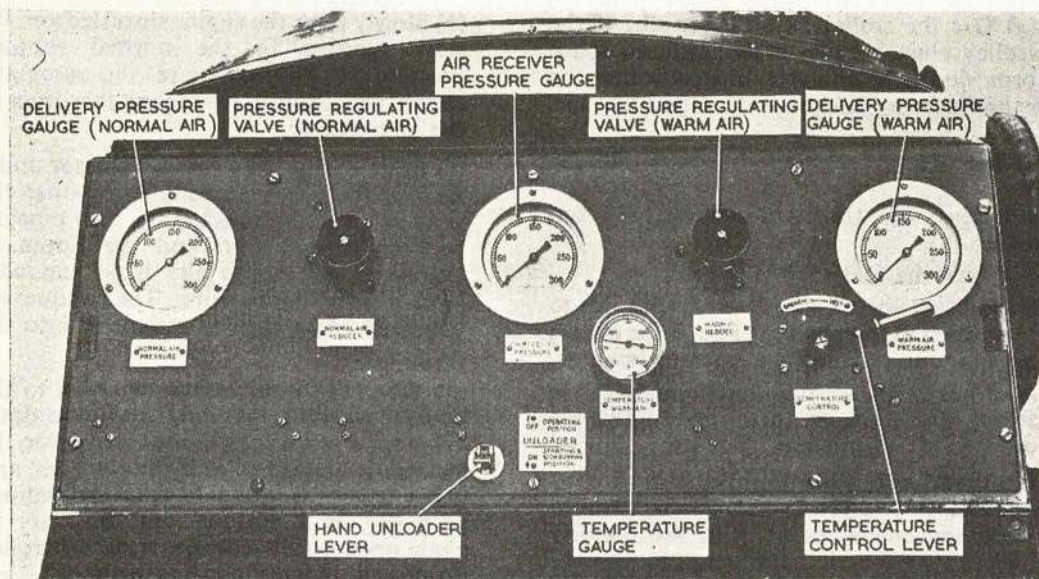

Fig. 16. CONTROL PANEL
- (a) Set the hand unloader lever (Fig. 16) to the ON position.